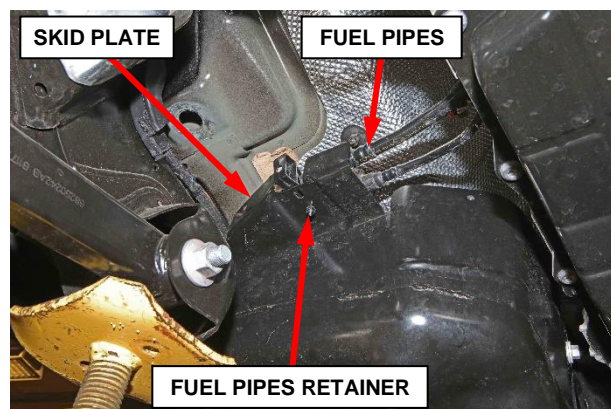

Figure 4 – Fuel Pipes Retainer
3. Release the fuel pipe retainer from the fuel tank front skid plate (Figure 4).
7. Install the fuel pipe retainer to the fuel tank front skid plate (Figure 4).
5. Install the fuel pipe retainer to the fuel tank front skid plate (Figure 4).